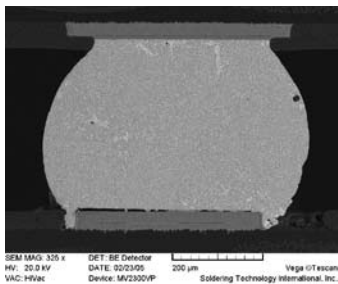

Figure 5. BGA Solder Fracture
5) Opens / Fractures – viewing the BGA solder joints in 3D can also show open connections if present and sometimes solder joint fractures, if the fracture is significant. Micro-fractures usually are not detectable with x-ray analysis. See Figure 5.